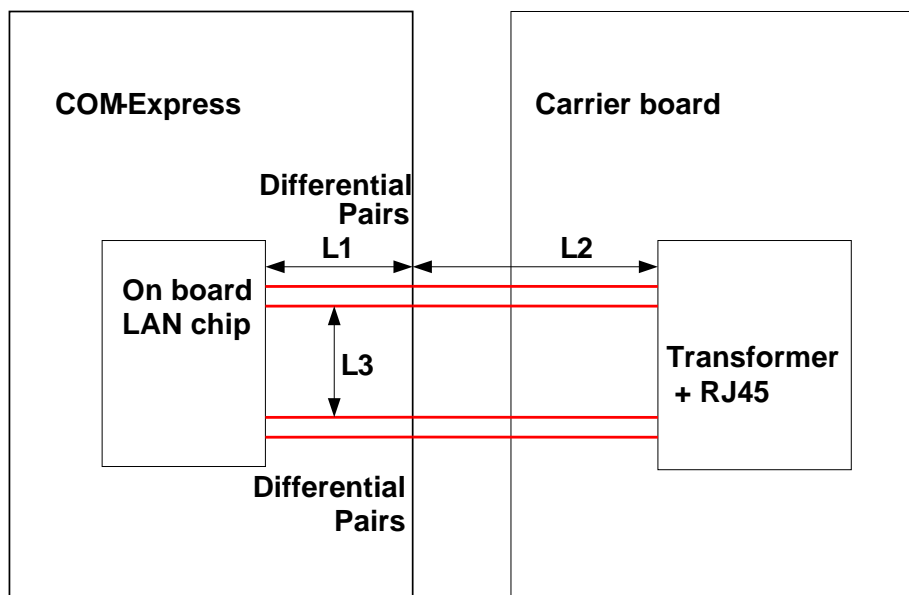

Figure 2-4 Differential signals route example
- The total length of each differential pair should be less than 4 inches. Keep the length of each differential pair under 4 inches. Figure 2-4 shows an example. Please refer to the Advantech layout checklist for detailed length matching.
- Do not route any other signal traces (including other differential pairs) parallel to the differential traces or closer than 50 mils. to the differential traces. Figure 2-4 shows an example. It's recommended to keep length L3 longer than 50 mils.